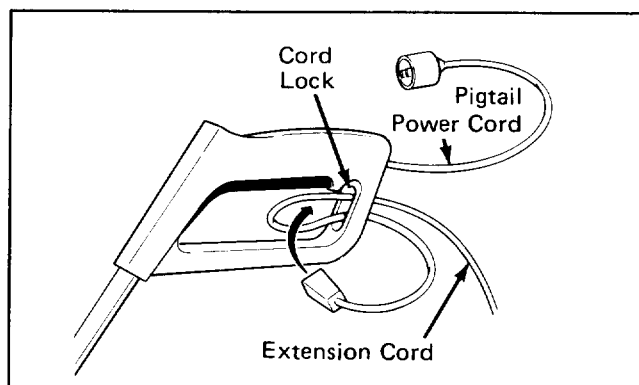

Figure 7
See Figures 7 & 8 for proper cord connection.
1. Secure the pigtail power cord and a suitable extension cord in cord lock as shown in Figures 7 & 8.